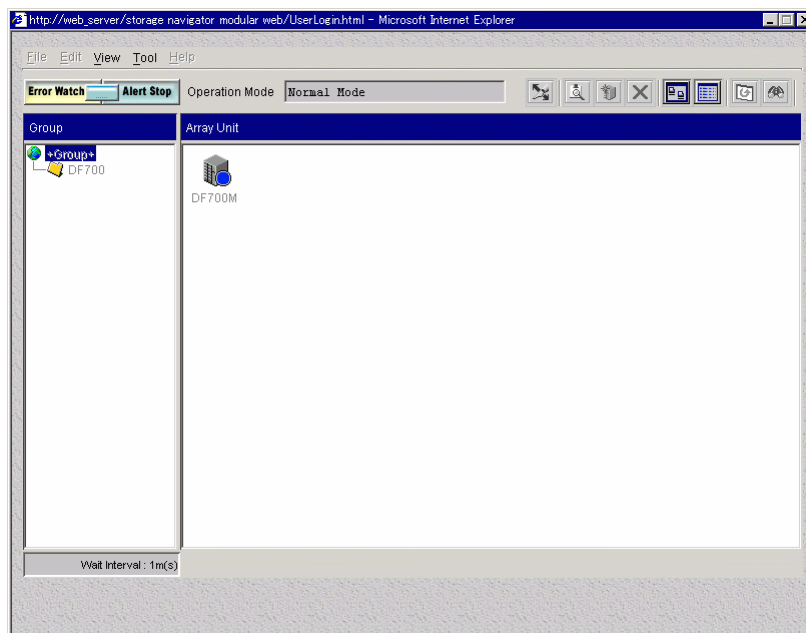

Figure 13.5 Storage Navigator Modular – Array Unit
1. Click **Error Watch** **Alert Stop** : Error Watch on the Main screen. See Figure 13.5.